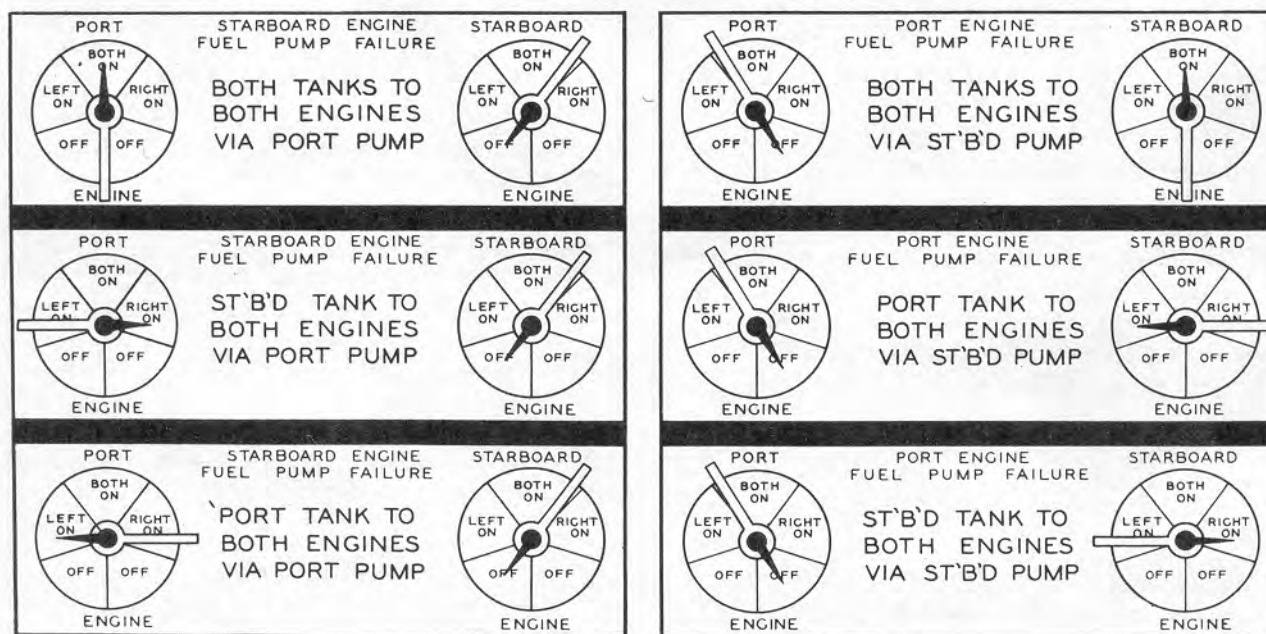

Figure 33—Fuel Selector Valve Position Chart
(3) OPERATION OF FUEL SELECTOR VALVES.—The various combinations of tank-to-engine fuel flow are shown on the Fuel Selector Valve Position Chart. (See figure 33.)
(4) OPERATION OF CROSS-FEED SYSTEM.—The various combinations of fuel selector valve setting with only one fuel pump operating and the cross-feed valve "ON" are shown on the Fuel Selector Valve Position Chart. (See figure 33.) The cross-feed valve should always be "OFF" except in case of engine or fuel pump failure.
(5) OPERATION OF HAND WOBBLE PUMPS.—The hand wobble pumps are used to furnish fuel pressure to start the engines, and to furnish emergency pressure in case one of the engine-driven fuel pumps is disabled.
(6) OPERATION OF PRIMING PUMP.—The hand priming pump is on the port side of the engineer's compartment. The pump handle can be turned to select the engine to be primed. To unlock the plunger, push the handle all the way down; turn to right or left "ON," as desired. Plunger may then be pulled back for the stroke.